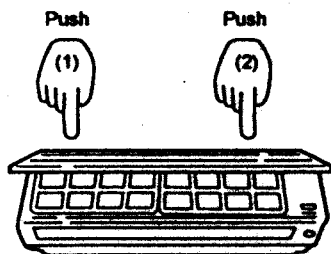

Fig. 3-7
- (1) After fastening two screws, be sure to hook the inside clicks (1) and (2) of the front panel shown in Fig. 3-7, right gap is left between the front panel and the rear plate.